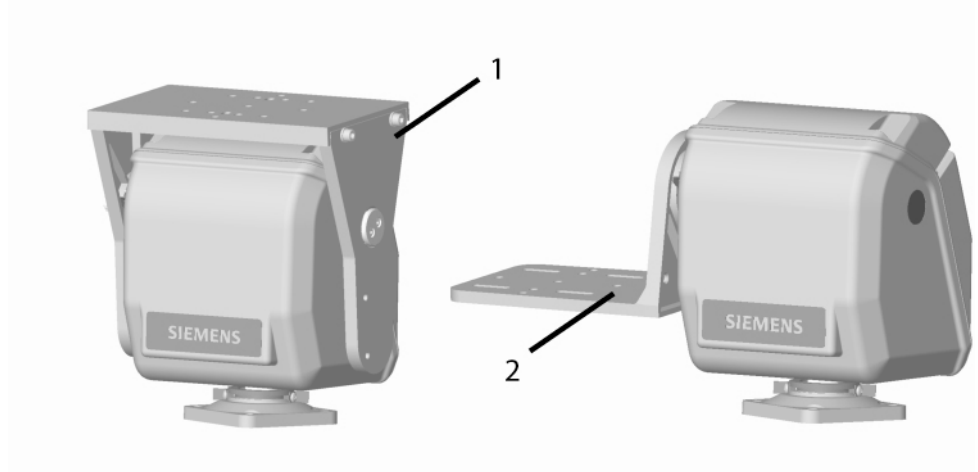
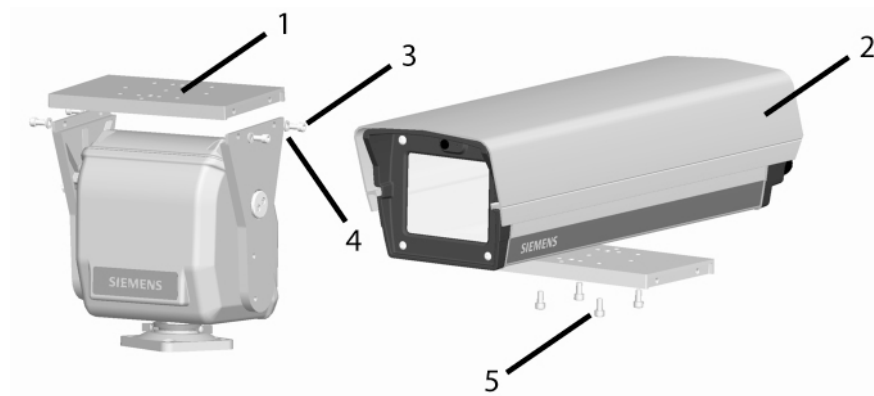

Fig. 3 Pan and Tilt unit mounting options
Fig. 6 Over the Top platform top plate camera installation
The Over the Top Pan and Tilt unit has a removable mounting plate for ease of installation of a camera housing (see Fig. 6). A column spacer can be used to offer greater installation flexibility (see Fig. 3)
1. Remove the four M6 screws (3) using the 5 mm Allen Key (see Fig. 6).